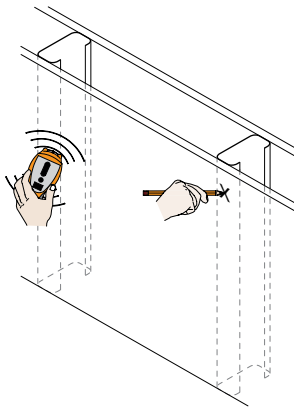

Figure 19. Using a Stud Finder
2. Use a stud finder (not included) to determine the exact center of each steel stud in the vicinity of the mounting location (Figure 19).